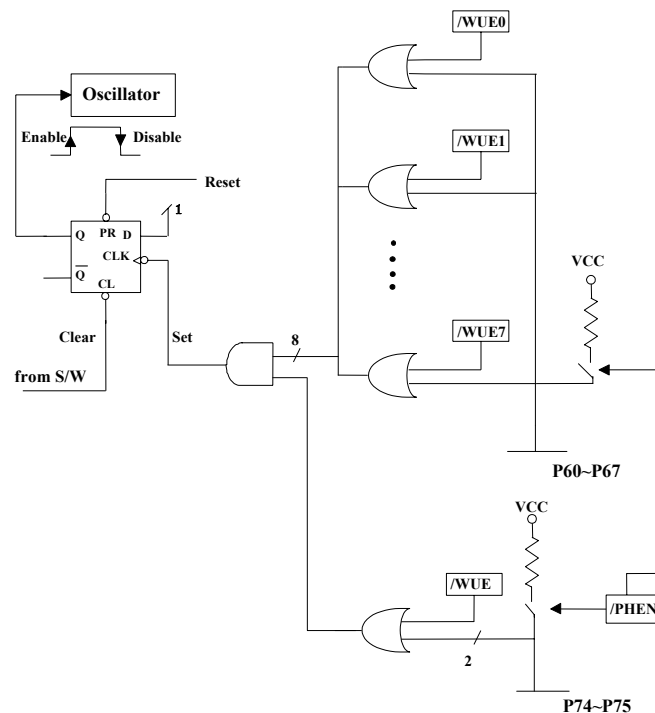

Fig. 5 Sleep Mode and Wake-Up Circuits on I/O Ports Block Diagram
- **Bit 4 (SLPC)** This bit is set by hardware at the low level trigger of wake-up signal and is cleared by software. SLPC is used to control the oscillator operation. The oscillator is disabled (oscillator is stopped, and the controller enters into SLEEP2 mode) on the high-to-low transition and is enabled (controller is awakened from SLEEP2 mode) on low-to-high transition. In order to ensure the stable output of the oscillator, once the oscillator is enabled again, there is a delay for approximately 18ms¹ (oscillator start-up timer, OST) before the next instruction of the program is executed. The OST is always activated by a wake-up event from sleep mode regardless of the Code Option bit ENWDT status is "0" or otherwise. After waking up, the WDT is enabled if the Code Option ENWDT is "1". The block diagram of SLEEP2 mode and wake-up invoked by an input trigger is depicted in Fig. 5. The SLPC bit can be read and written.
(A) Any of the wake-up pins is "0" as illustrated in Figure. 5. Upon waking, the controller will continue to execute the succeeding address. Under this case, before entering SLEEP2 MODE, the wake-up function of the trigger sources (P60~P67 and P74~P75) should be selected (e.g., input pin) and enabled (e.g., pull-high, wake-up control). It should be noted that after waking up, the WDT is enabled if the Code Option bit ENWDT is "0". The WDT operation (to be enabled or disabled) should be appropriately controlled by software after waking up.